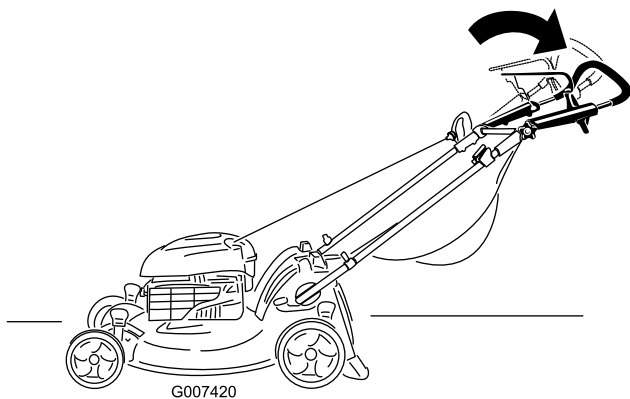

Figure 20
2. Move the upper handle to the desired position (Figure 20).